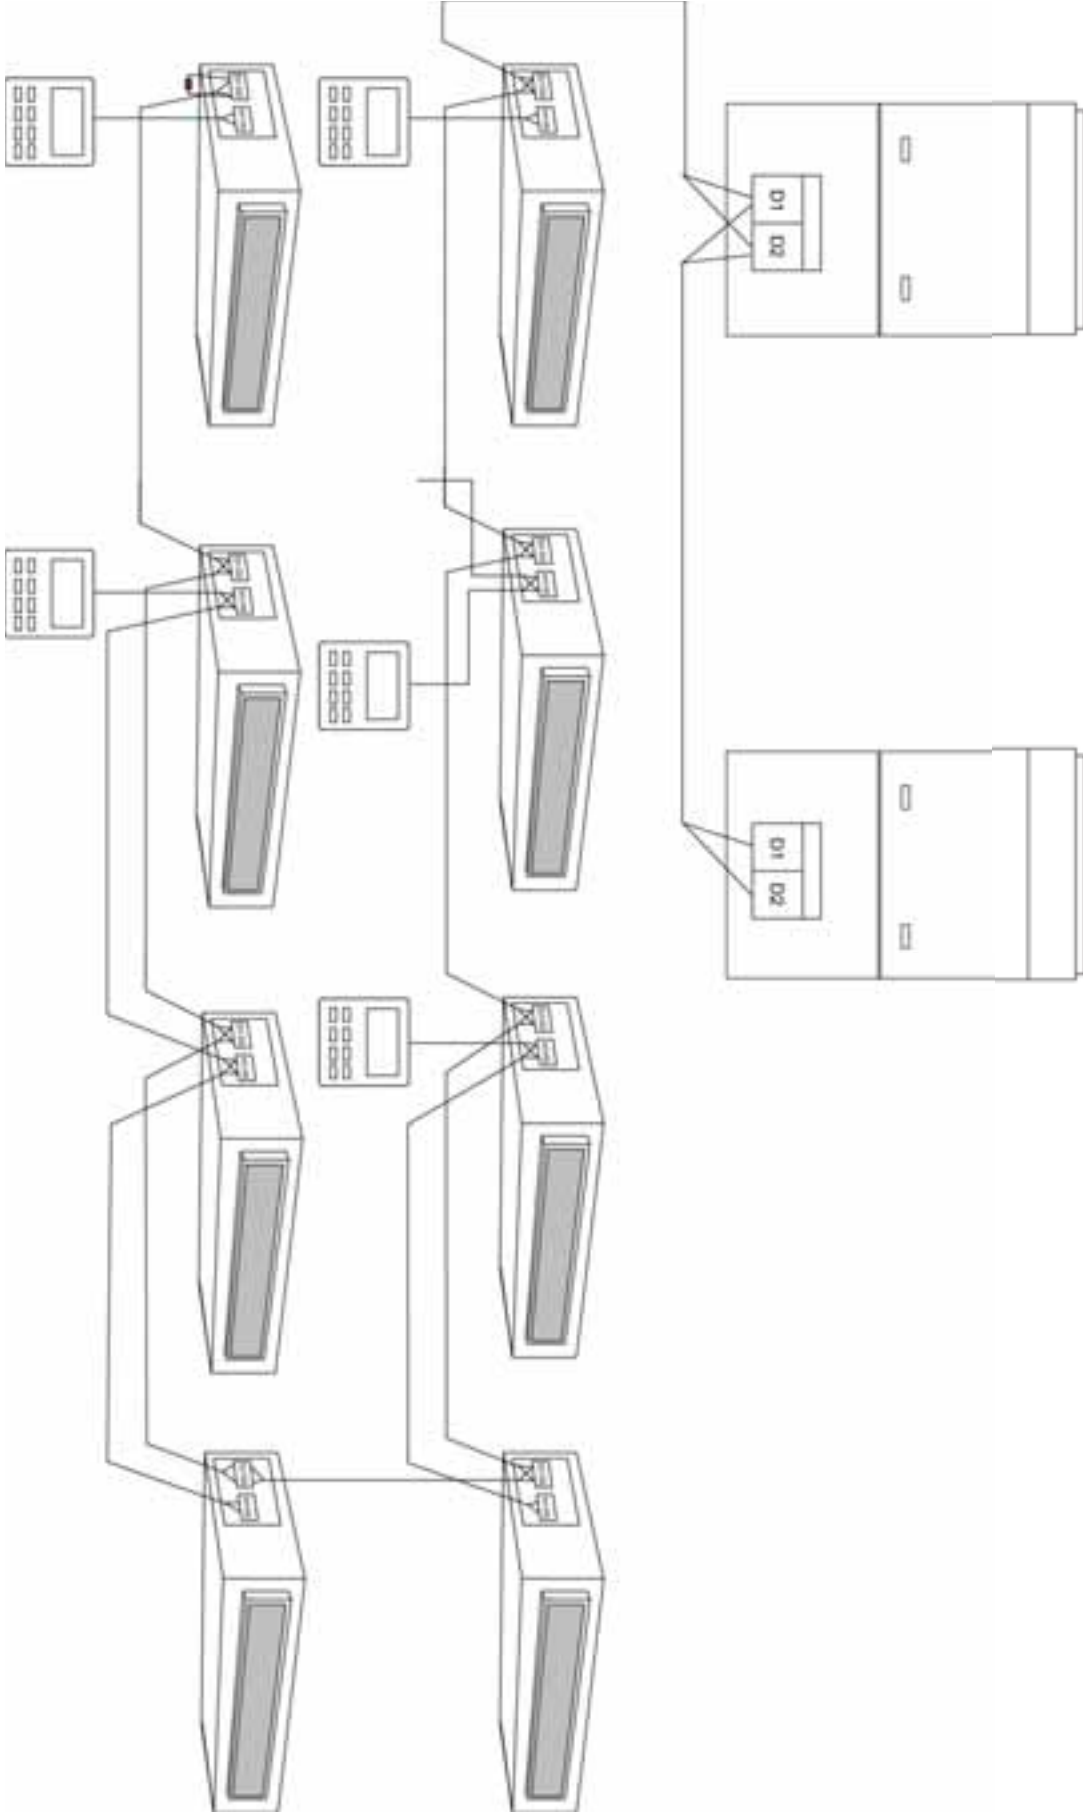

Fig 5.5
- (1) Communication wire of indoor unit to outdoor unit (or indoor unit) is connected to D1,D2.
- (2) Wired controller is connected to H1,H2.
- (3) One indoor unit can connect two wired controllers. One must be set as master and one as slave.
- (4) One wired controller can control 16 indoor units maximum at the same time. (as shown in Fig. 5.5)